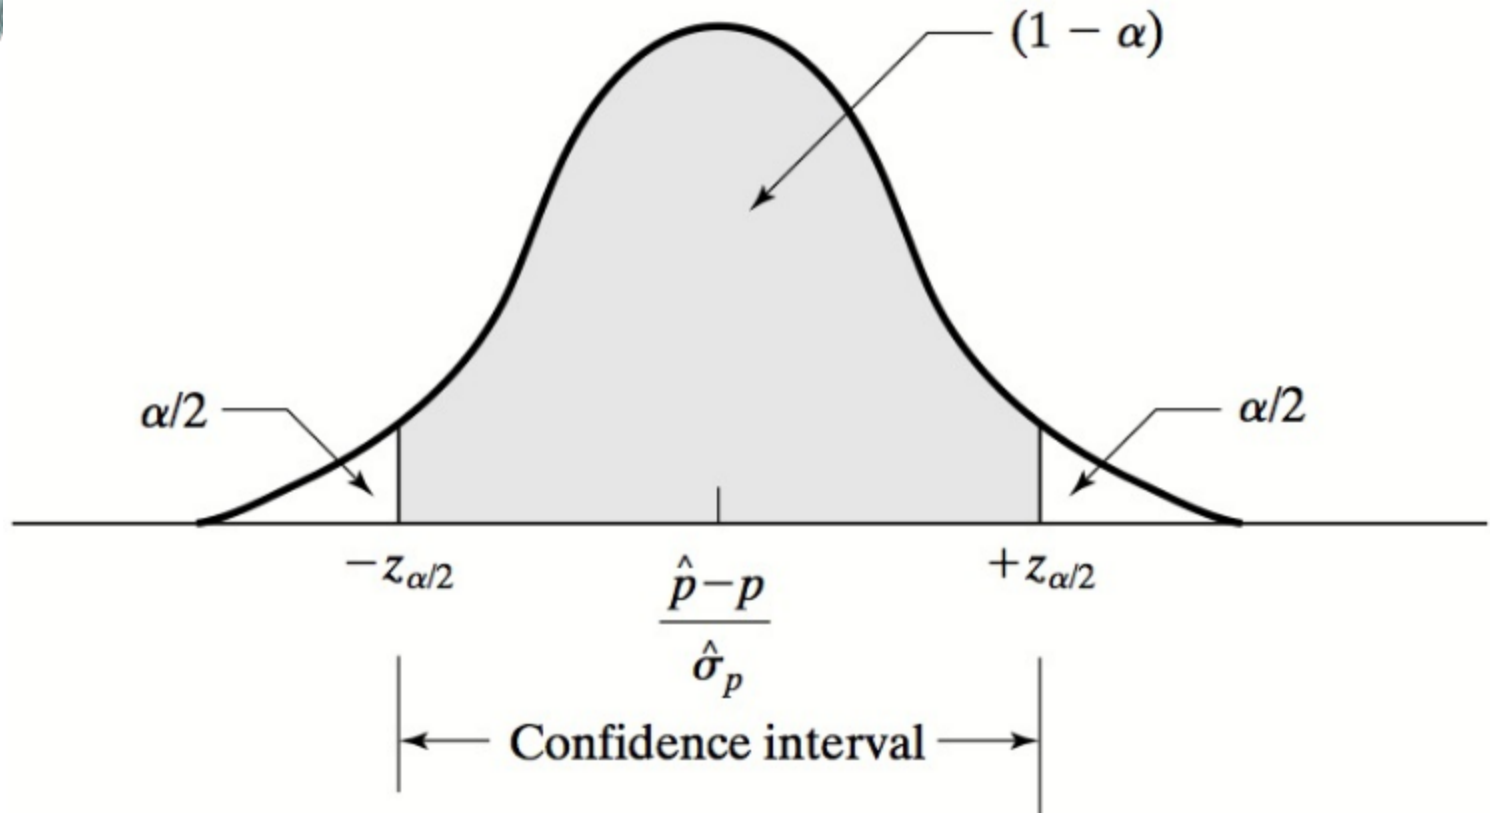

Figure 1 Definition of a confidence interval in the standard normal distribution.
- Confidence interval for std. normal distribution relative to p expressed as follows (fig. 1):